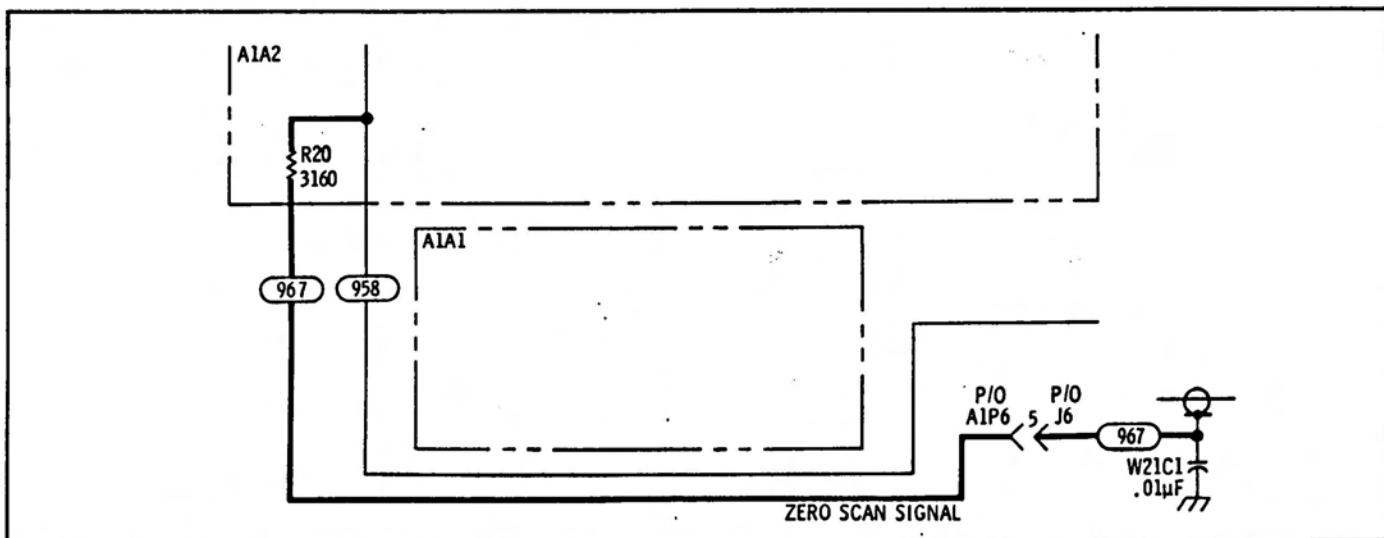

Figure 7-9. Partial Schematic of Figure 8-65, Zero Scan Signal Line to A1A2 (P/O Change E)
Add resistor A1A2 R20 and Zero Scan Signal line (967) between shield of cable W21 and 958 line as shown in heavy lines in the partial schematic, Figure 7-9.